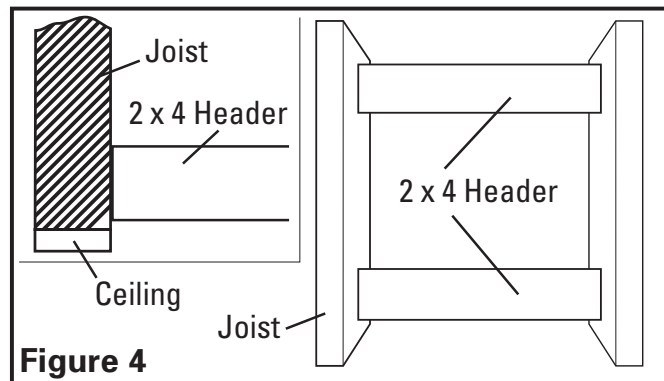

Figure 4
- 1c. **Installation on 24" Centers Joists or Larger than 2x6 Joists on 16" Centers:** Install two - 2x4 headers (not included) between the joists (Figure 4). Install the mounting brackets through the top set of slots on the fan housing and secure in place with the four included #10-32 nuts as shown. Position the fan housing between the headers and secure the mounting brackets with screws or nails (not included) to the header. Adjust the height of the housing so that it is flush with the finished ceiling by loosening the mounting bracket nuts and sliding the housing up or down on the bracket. Fully tighten all four nuts to secure the housing in place (Figure 5).